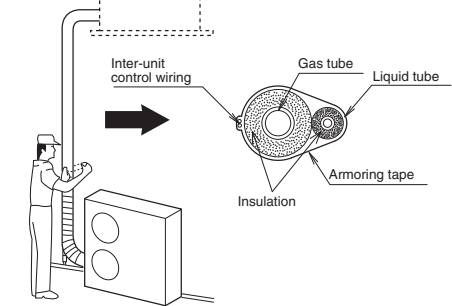

Fig.7-11
- (1) At this time, the refrigerant tubes (and electrical wiring if local codes permit) should be taped together with armoring tape in 1 bundle. To prevent condensation from overflowing the drain pan, keep the drain hose separate from the refrigerant tubing.
- (2) Wrap the armoring tape from the bottom of the outdoor unit to the top of the tubing where it enters the wall. As you wrap the tubing, overlap half of each previous tape turn.
- (3) Clamp the tubing bundle to the wall, using 1 clamp approx. each meter. (Fig. 7-11)